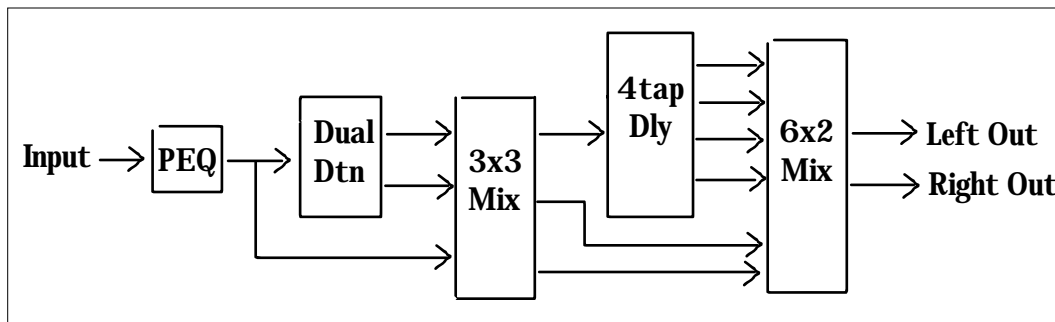

Fig 4-2
- Diagram your Algorithm Structure - This will help you avoid confusion, while pulling all the pieces of your Algorithm together. You don't have to possess a technical degree to do this. Simply draw boxes that represent your effects and how you want to connect them together (see fig. 4-2).